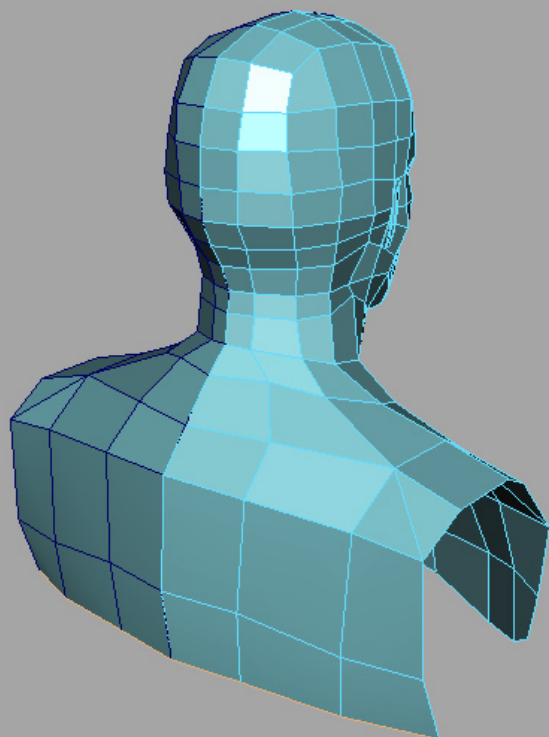

Fig 07
7. We're using the same method for the backside "Fig07".